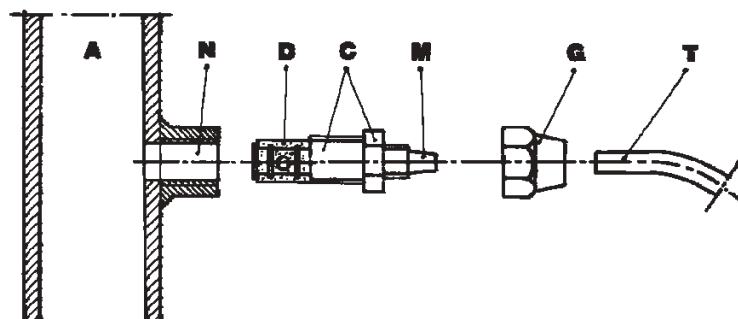

Fig. 9
- g. - Select the most appropriate injection point on a pipe of the plant to be treated and there fit a 3/8" female steel gas thread connector (similar to BSPm). This connector is not supplied with the pump. Screw the injection valve to the gas connector, inserting a gasket as shown in Fig. 9. Then connect the discharge hose to the conical connector on the injection valve and fix it with the supplied tube nut G. The injection valve also acts as no return valve by means of a cylinder sleeve (elastomer, standard supplied in Viton®).
DIAGRAM Fig. 9